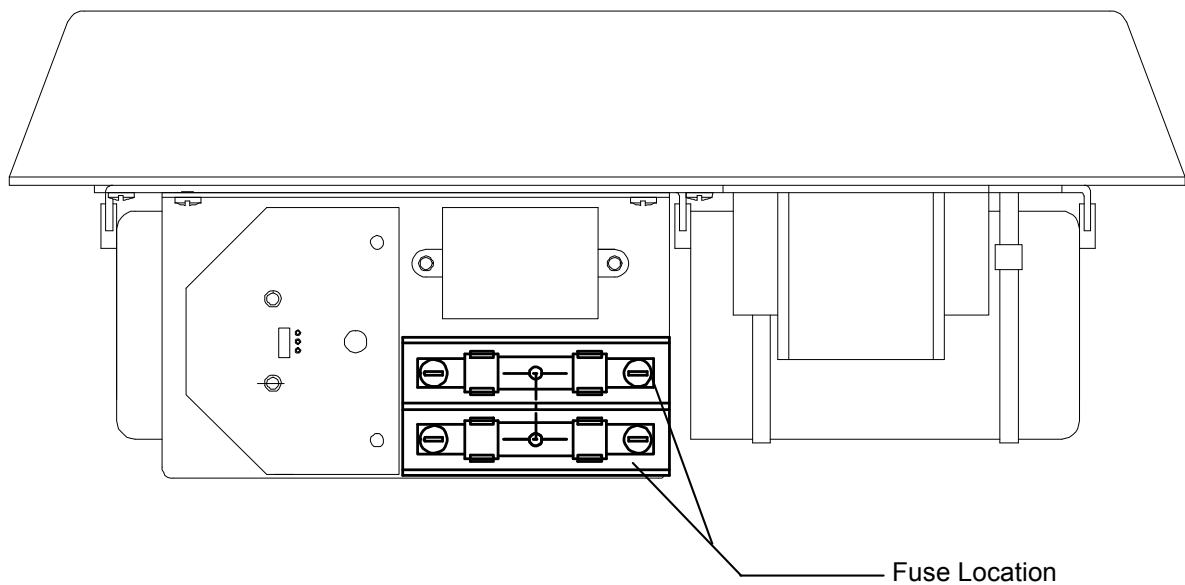
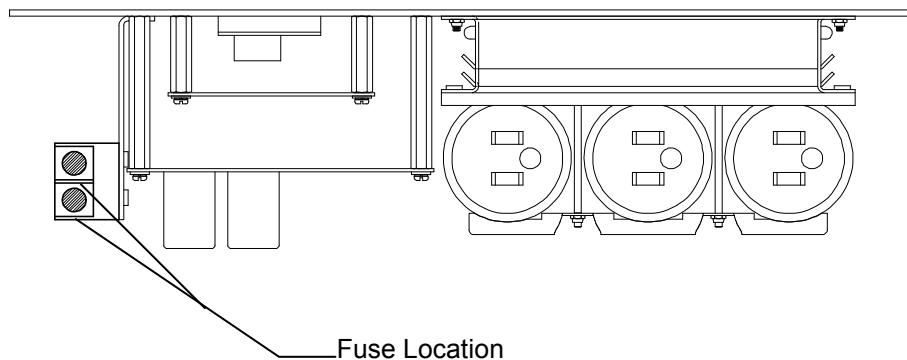

Figure 10-2: BITE 2 transmitter secondary fuses (front view)
Figure 10-3: BITE 2P transmitter secondary fuses (front view)
The output of the **transmitter** is double pole fused with two 15 ATM, 600 V type fuses. These secondary fuses are installed to protect the operator from possible shock and to protect the BITE 2/2P circuitry in the event of catastrophic component failure. The secondary fuses are mounted on the bottom base panel internal to the BITE 2 **transmitter** as in *Figure 10-2*. See *Figure 10-3* for the BITE 2P configuration. The fuses are coordinated for fast response to a dc inrush from the battery under test.
5. Locate the two-pole fuse block on the front plate of the transmitter chassis (see *Figure 10-2* shown earlier in this chapter). The fuses should be marked 15 ATM or 15 KLM.
5. Locate the two-pole fuse block on the front plate of the transmitter chassis (see *Figure 10-3* shown earlier in this chapter). The fuses should be marked 15 ATM or 15 KLM.